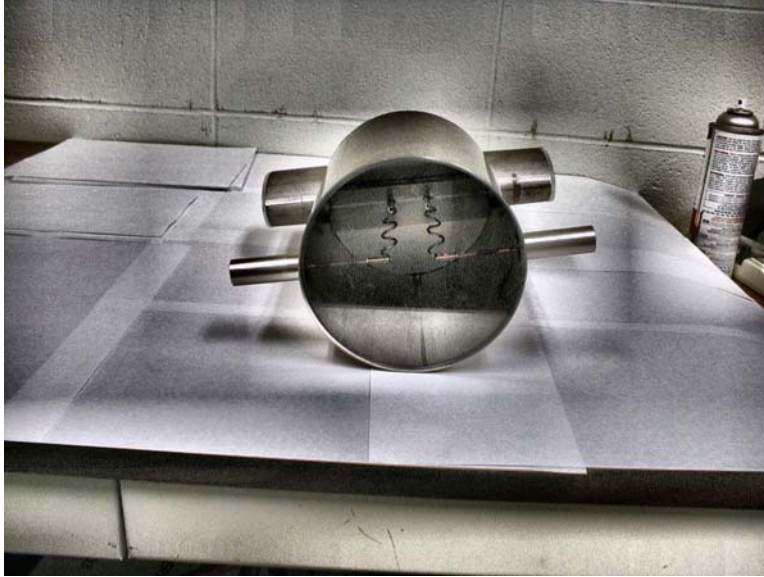

**Figure 2:** An example of VA1/VA2 vacuum cross configuration.
With the exception of nine ion pumps installed directly on a beam pipe in special locations, all of the new 20-L/s ion pumps are installed on a TSP can as shown in Figure 2. The “old” 30-L/s pumps are installed in a similar manner.
**Figure 4:** The TSP can with its back side cut open. One can see two Ti filaments attached to home-made current feed-thrus. This TSP can does not have a port for the ion pump as shown in Fig. 2.
There are 30 actively reporting ion gauges in the ring. Each of these ion gauges is installed on a TSP can as shown in Fig. 2. Their biggest drawback is that they are separated from the beam pipe by a TSP. Figure 5 shows the IG pressure profile.
There are 8 RGAs in the Recycler of which 3 are installed between the TSPs, while the remaining 5 are installed like ion gauges in Fig. 2. The majority of the residual gas content (as expected) is hydrogen, with more than 10% of water, CO and CO2.